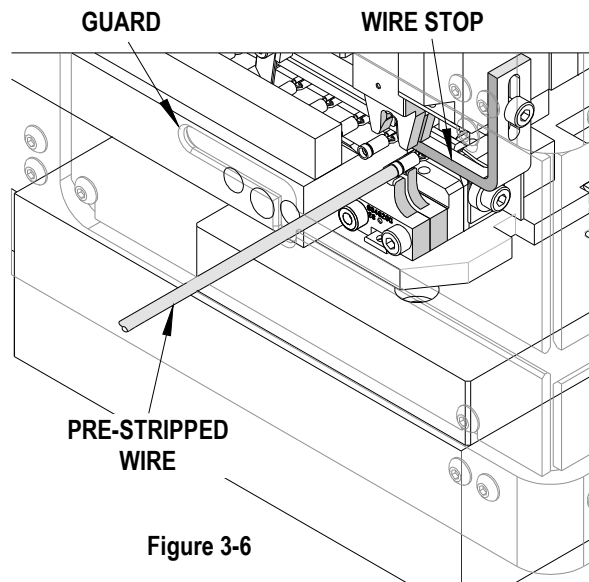

Figure 3-6
4. Place the prestripped wire through the slot in the press guard and push until it contacts the applicator's wire stop. See Figure 3-6.